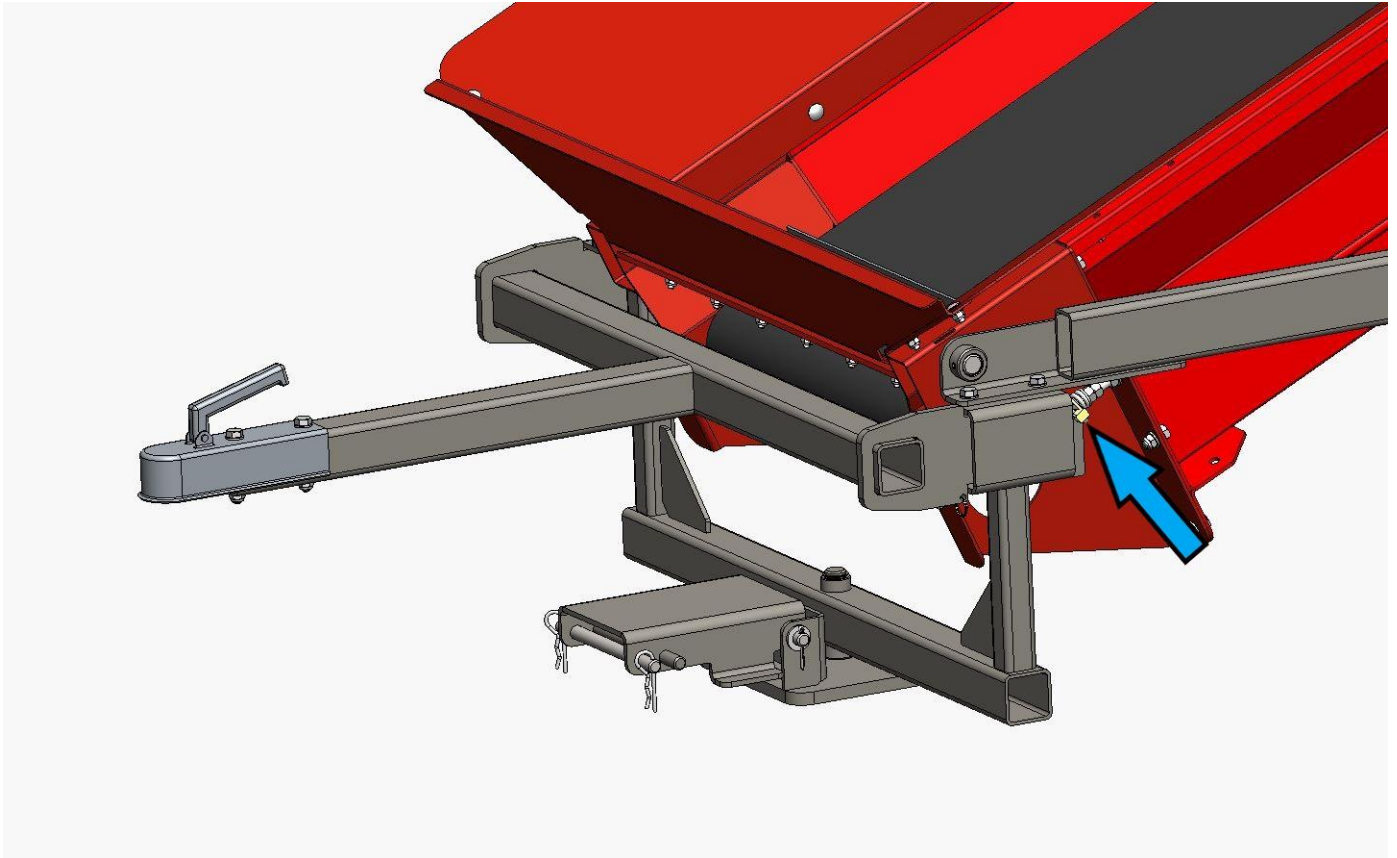

Figure 7.
2. Install the conveyor drawbar, as shown in Figure 7, and lock the locking pin indicated with an arrow (both sides).